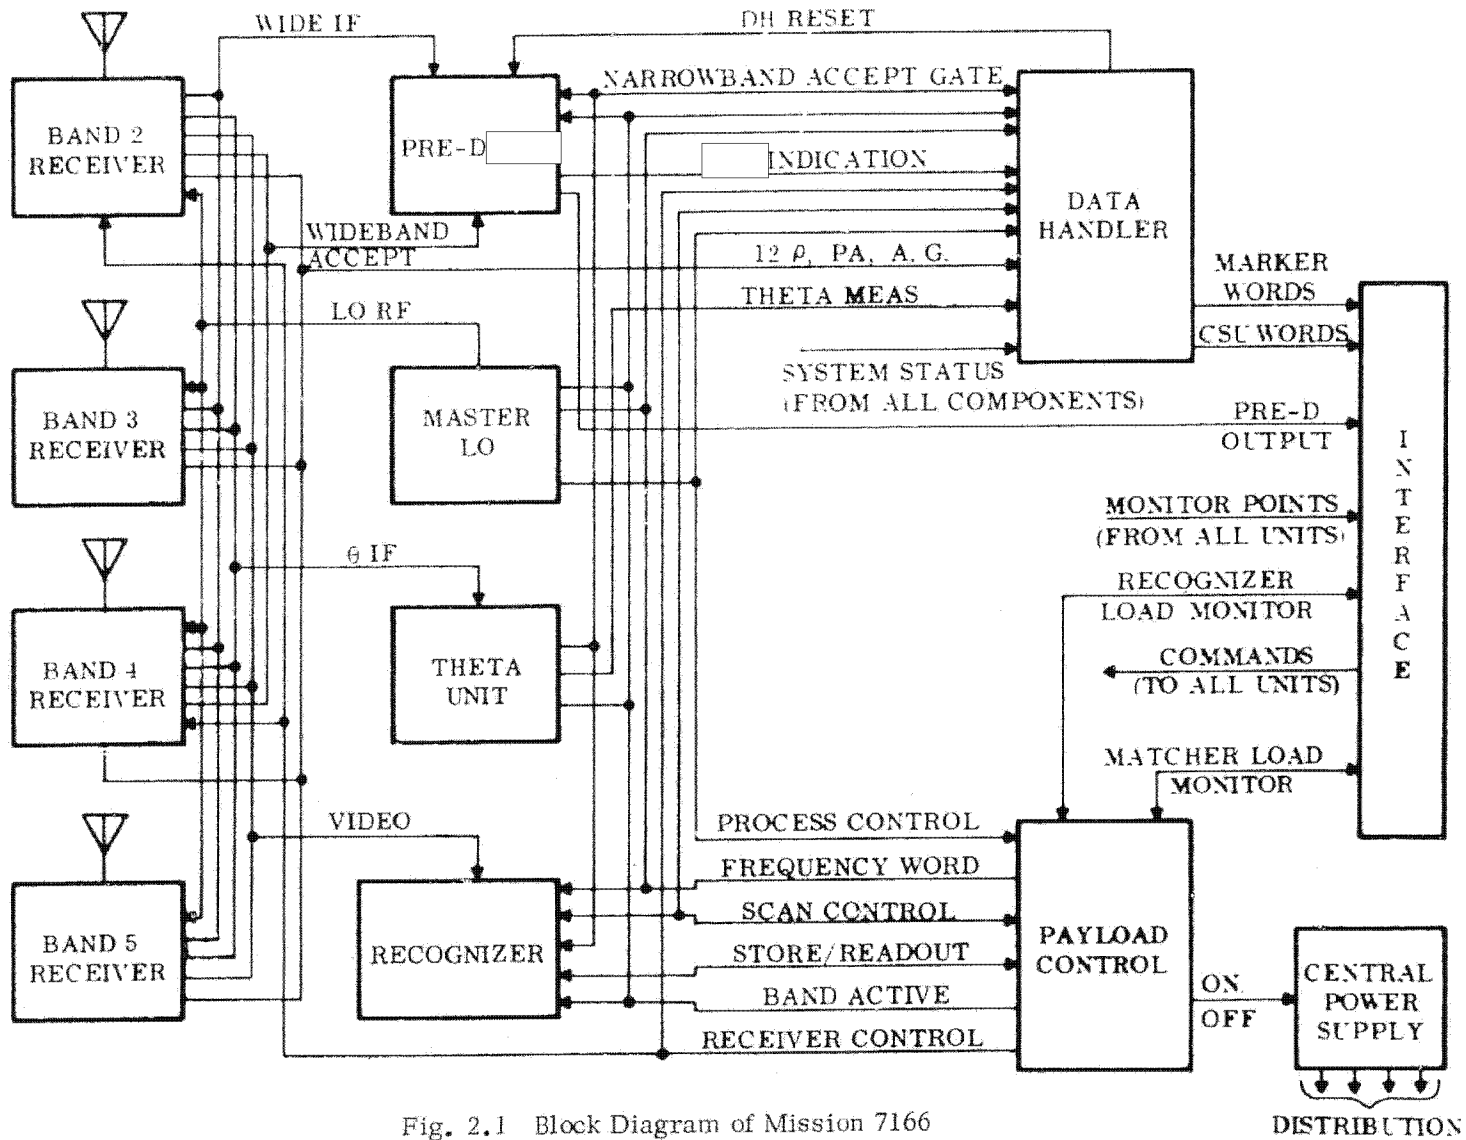

Fig. 2.1 Block Diagram of Mission 7166
Mission 7166 is a frequency scanning, electronic reconnaissance system which intercepts pulsed and [redacted] radiation from 125 to 2100 MHz. The payload can collect Electronic Order of Battle (EOB) or Technical Intelligence (TI) data. In the EOB mode, the payload digitizes the frequency, pulse repetition interval (PRI), [redacted] time of intercept, and relative position of the intercepted signal. When in the TI mode, the payload records 5 MHz predetected analog data in addition to the digital information just discussed. The major components of the payload are the antennas, the receivers, the recognizers, the frequency matchers, and the Pre-D/[redacted]nit; each will be discussed. Figure 2.1 is a block diagram of the payload. Table 2.1 shows the payload characteristics.